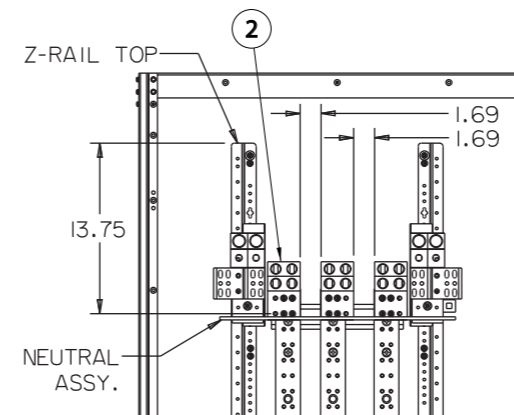
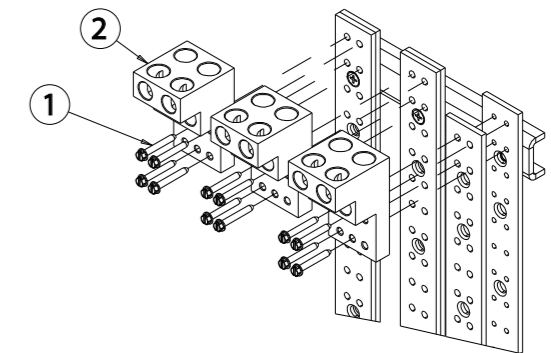

Figure 2
Figure 3
3. Reference fig. 2 - Lug elevation. To locate the lug mounting position measure 13.75" from top (or bottom for bottom feed applications) of the Z-rail. Mark position on Z-rail. This marked location will align with 0.228" holes on the section bus. Note: Lugs are installed on the end of the section bus closest to neutral assembly.
5. Reference fig. 3 - Installing lugs. Align lower holes on lug (item 2) with holes on A phase section bus defined in step 3. Use 4 hole pattern in lug (item 2) that results in a 1.69" minimum clearance between lug and section bus as shown in Fig 2. Insert four 1/4-20 X 1-3/4" screws (item 1) through lug and into section bus. Torque screws to requirements shown on back of deadfront cover. Repeat steps for B & C phase lugs ensuring 1.69" clearance between lugs and section bus.